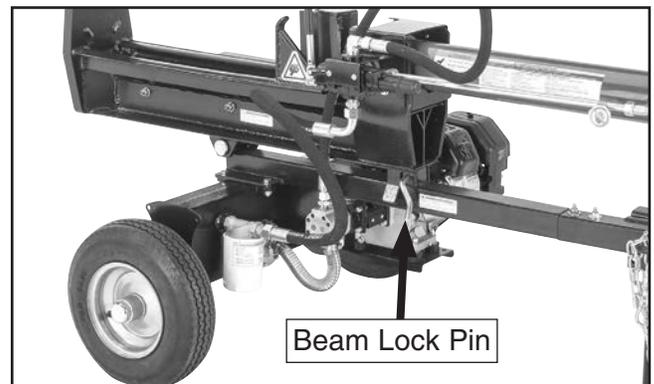

Figure 33. Beam lock pin location.
1. Lower log splitter cylinder and beam to horizontal position, and lock with beam lock pin (see **Figure 33**).